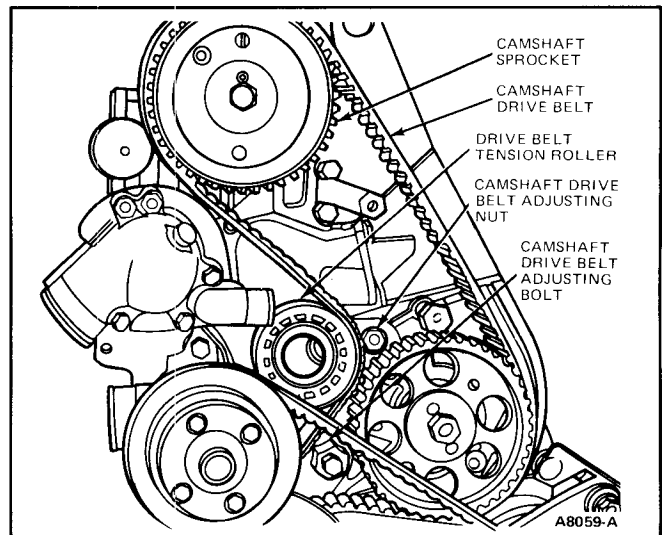

FIG. 37 Camshaft Drive Belt Installation
4. Install camshaft drive belt. Starting at crankshaft, route belt around intermediate shaft sprocket, injection pump sprocket, camshaft sprocket and then tension roller, keeping slack to a minimum (Fig. 37).